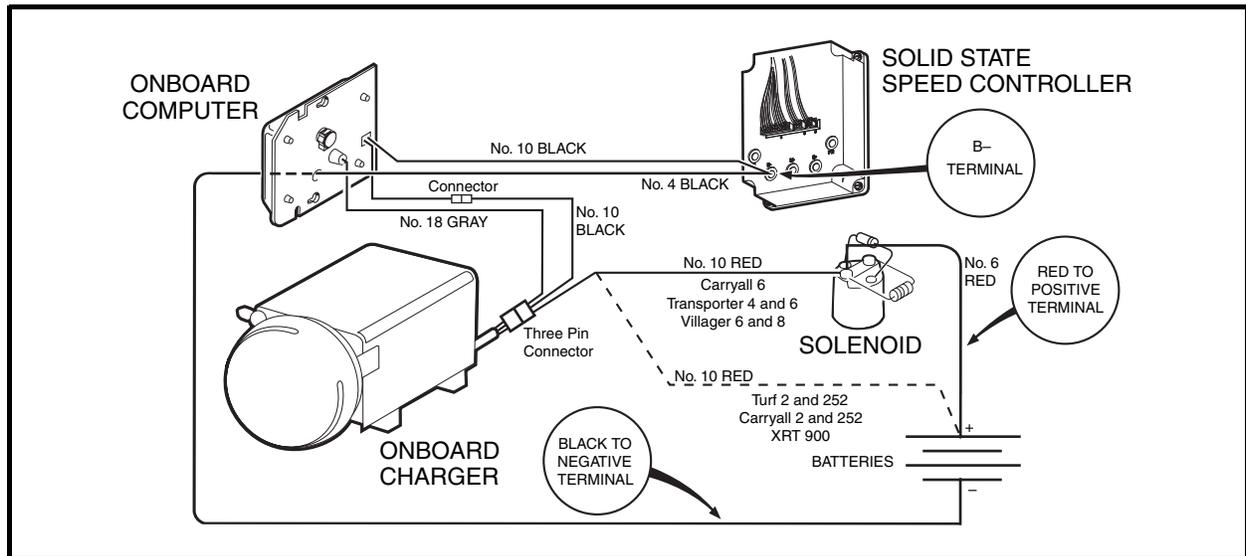
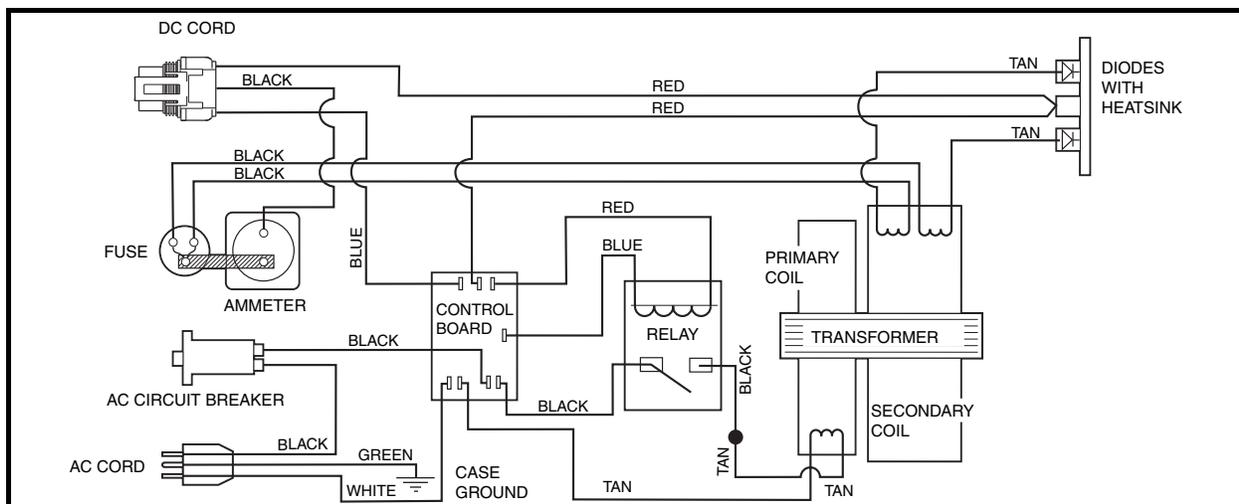
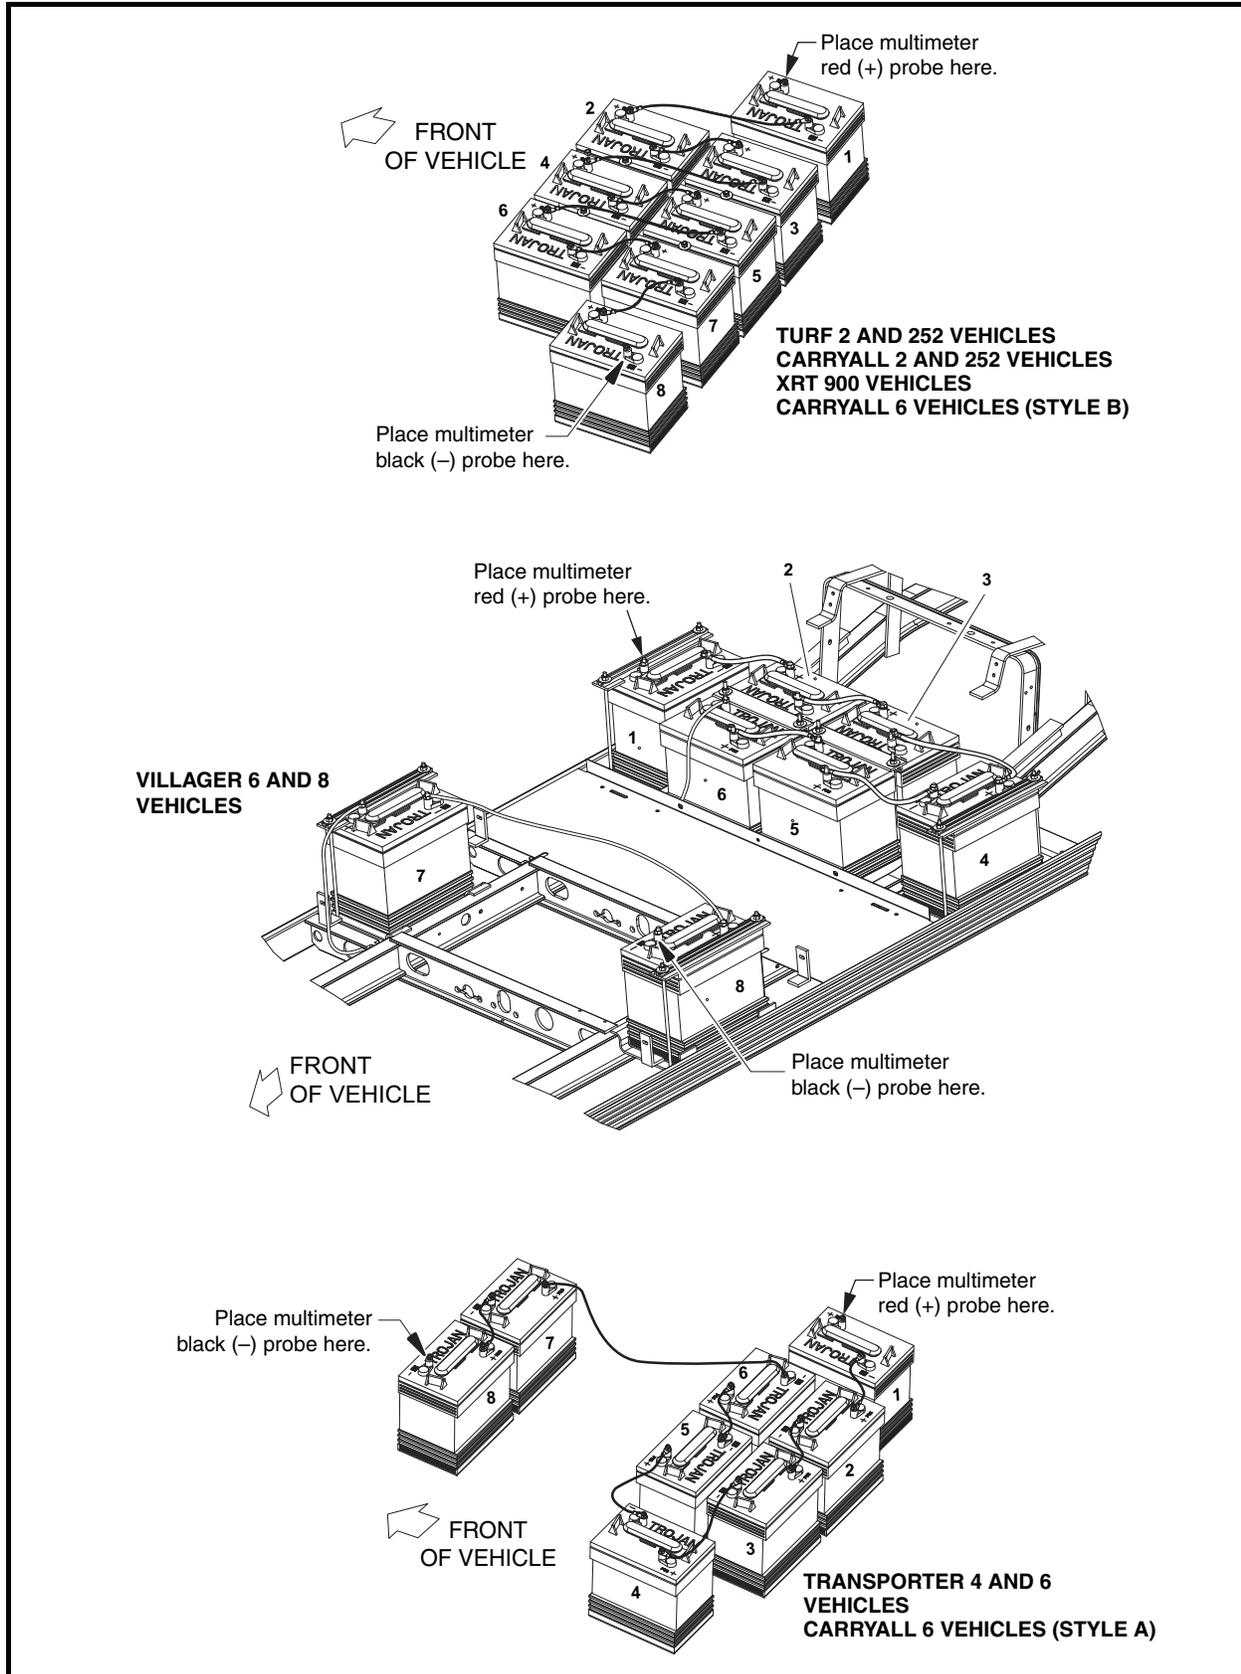

Figure 9-2 Charge Circuit
Figure 9-3 IQ Plus Onboard Battery Charger Wiring Diagram
Figure 9-4 Battery Configurations
ative (–) post of battery no. 8 (**Figure 9-4, Page 9-10**). The 10-gauge red wire of the charger is connected to the positive (+) post of battery no. 1 for Turf 2/252, Carryall 2/252 and XRT 900 vehicles, or the large post of the solenoid (battery side) for Carryall 6, Villager and TransPorter vehicles. The 18-gauge gray wire from the charger connects to the onboard computer (**Figure 9-2, Page 9-3**).
2. If the charger does not operate exactly as described above, refer to the wiring diagram and make sure that the vehicle is wired correctly (**Figure 9-2, Page 9-3**) and that the internal charger wiring is correct (**Figure 9-3, Page 9-6**).
- Knowledge of battery charger wiring and component terminology is required before attempting any repair (Figure 9-3, Page 9-6).
Improper vehicle or battery charger wiring	See Figure 9-2, Page 9-3, Figure 9-3, Page 9-6 and Figure 9-4, Page 9-10
2. With a multimeter set to 200 volts DC, measure the voltage of the battery pack between the positive (+) post of battery no. 1 and the negative (–) post of battery no. 8 (**Figure 9-4, Page 9-10**). Normal no-load voltage should be between 50 and 52 volts for fully charged batteries. The voltage of the battery pack must be over 32 volts DC to allow the onboard computer to close the charger relay. If battery pack voltage is too low to start charger, temporarily bypass the charger relay. **See Charging a Battery Pack that has Low Voltage on page 9-29.**